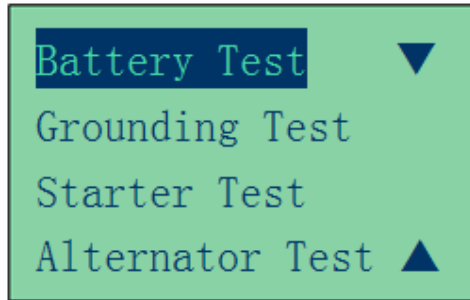

Figure 41
3. After you have made your choice, selecting "New->Clear Memory" or "Last->Continue" will proceed to the display below: (Fig. 41)